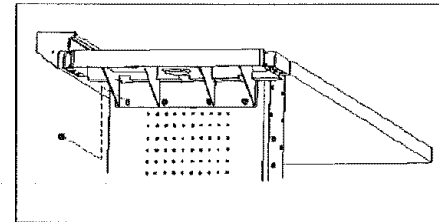

Fig. 1
- Place the top onto the frame by lining up the four top holes of the pegboard pattern located on the left side, with the four holes in the organizational tray. (See Fig. 1)